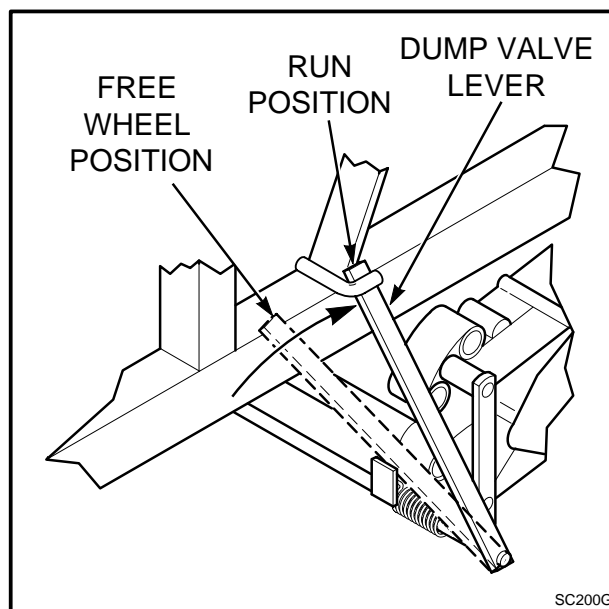

Figure 1
2. **Run Position:** Move the dump valve lever (on Left Hand side of mower) behind the hook on the frame to close hydraulic dump valves on the pump. (See Figure 1)
Free Wheel Position: Pull lever back and to the left, then push forward to relieve pressure. (See Figure 1)
11. Operate the machine forward and backward. Check that all the systems function correctly. If the machine does not move, make sure the hydraulic dump valve lever near the left wheel is engaged. (See **Figure 1** page3)
To release the drive wheels, so the machine will roll without the engine running, pull the dump valve lever back from the hook on the frame, move it to the left, and push it forward to relieve the pump pressure. The lever is on the LH side of the machine. (See Figure 1 on page 3)